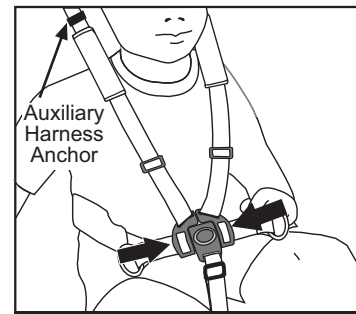

Fig. 17 Fasten Crotch Strap/ Buckle.
- Fasten shoulder straps. Insert both shoulder strap buckles into crotch strap buckle (Fig. 17).
NOTE: For heavier and or taller passengers (closer to the maximum limits above), auxiliary harness anchors may be utilized by unfolding anchor Velcro (Fig. 17), sliding buckles above anchors, and reconnecting Velcro to keep buckles in place.